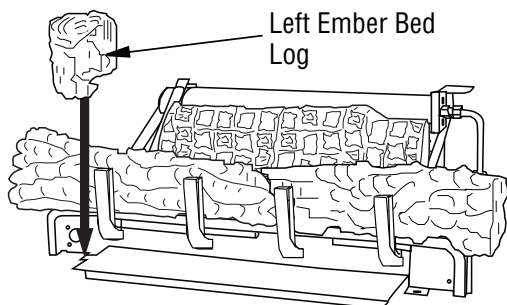

Figure 40 - Installing Left Ember Bed Log
- Place left ember bed log (18" D-073, 24" & 30" D-048) as shown in **Figure 40**. The log has a groove on one side that sets on the ember bed pan. The back side of this log needs to rest against the front of the base assembly. Make sure the flame from the ember pan does not touch the ember bed log.